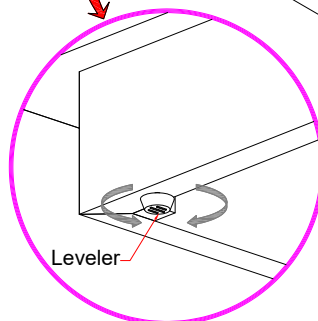

FIGURE 06
8. Check the furniture leveling, if it does not seat level, adjust the leveler on the bottom of the leg, as per illustrated in FIGURE 06.